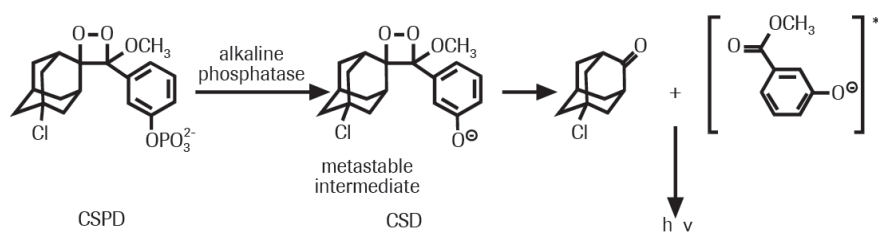

Fig. 3
- ① The hybridized probes are immunodetected with anti-digoxigenin, Fab fragments conjugated to alkaline phosphatase and visualized with the chemiluminescence substrate CSPD (Fig. 3).
- ② Enzymatic dephosphorylation of CSPD by alkaline phosphatase leads to a light emission at a maximum wavelength of 477 nm which is recorded on X-ray film or Lumi-Film*.
- ③ Since film exposures of a few minutes are usually sufficient for signal detection, multiple images may be acquired.